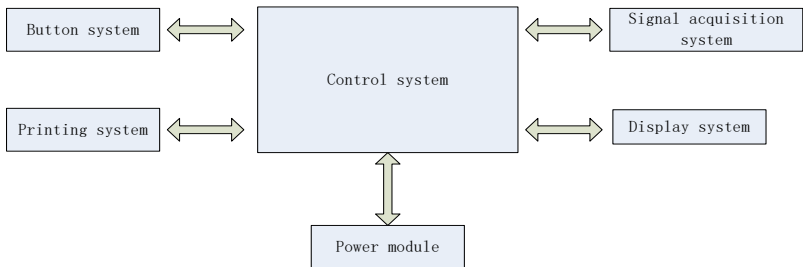

Figure 4-2 Block diagram of control unit
#### (2) Principle block diagram is shown in Figure4-2.